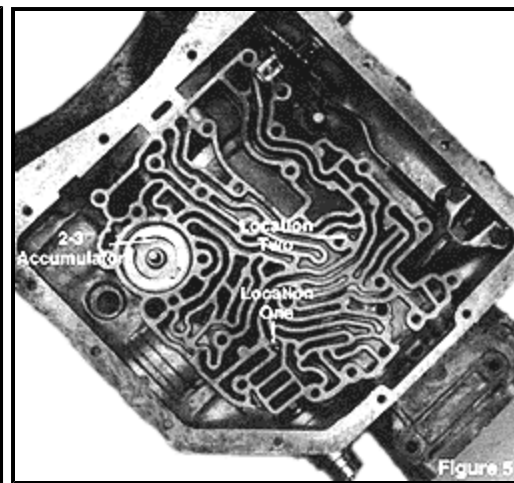

Figure 6
**STEP 10. 2-3 Accumulator:** No modification is necessary for this application. **(See Fig. 6)**
Check Ball positioning: Two 1/4" check balls. One in location 1 and one in location 2 (See Fig. 6).